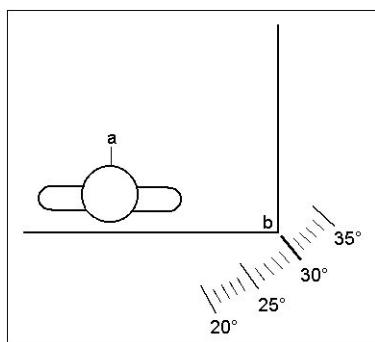

Figure 6: a) Angular adjustment locking screw. b) Corner of stage. Markings indicate the angle of incidence of the exciting light on the sample mounting slide.
The solid sample holder accessory provides both rotational and translational adjustment of the sample. The angle of incidence of the excitation may be varied from 20° – 35° . This is the angle between the exciting light and a line perpendicular to the surface of the sample mounting slide (refer to Figures 6 and 7). The angle of incidence is indicated by the position of the corner of the “stage” relative to the graduated markings on the accessory baseplate (Figure 6). The markings are at intervals of one degree. The largest mark indicates an angle of incidence of 30° .
- 3 Lock the stage into position by rotating the thumbscrew until finger-tight. It is recommended that you use the Kinetics application to perform this procedure. Alternatively, you can use the Advanced Reads application. To optimize measurement of a particular sample with the solid sample holder accessory, it is recommended that you initially monitor both the fluorescence intensity and the signal intensity at the excitation wavelength. Rotate the accessory “stage” (Figure 6(b)) to alter the angle of incidence of the exciting light.